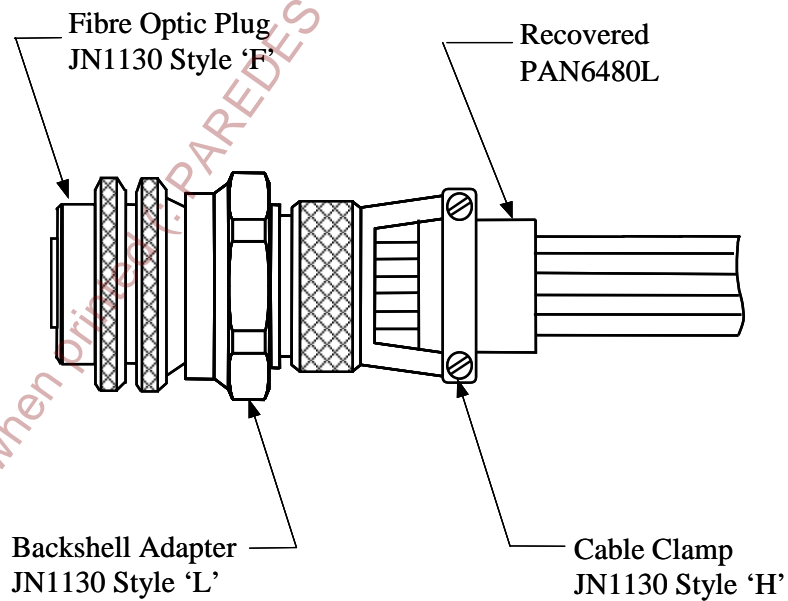

Figure 21
4.3.7 Slide the cable clamp assembly forward and tighten onto the rear of the connector (hand tight plus a quarter turn). See figure 21.